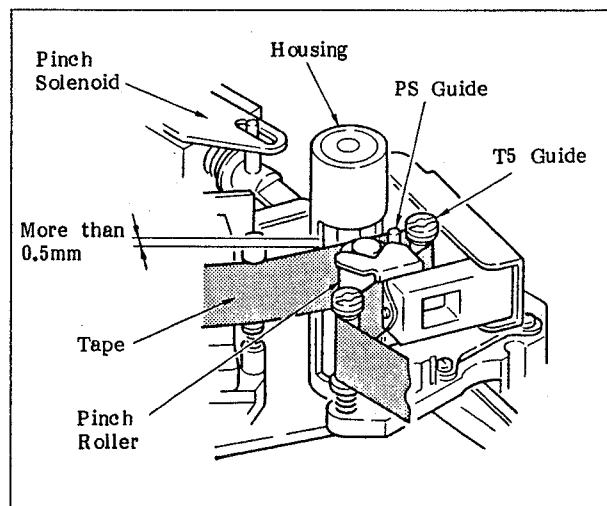

Fig. 6-117 Adjustment of the Position of the PS Guide Assembly (2)
11. Press the **F6** (F), **2**, **SET** and **>** keys on the control panel in that order to set it in unthreading condition.
16. Check that the PS guide is in contact with the tape. (Figure 6-117)
17. Push the pinch solenoid by hand. Check that there is more than a 0.5mm clearance between the housing of the capstan motor and the tape. (Figure 6-117)